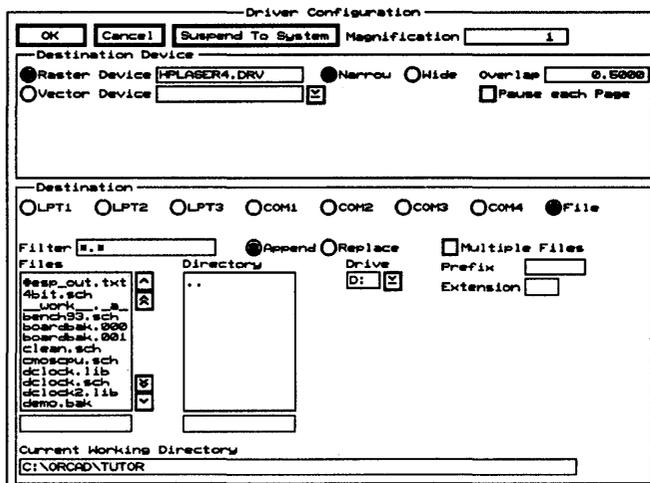

Figure 9-2. The **Driver Configuration** dialog box.
1. Select **Driver**. The **Driver Configuration** dialog box displays (figure 9-2).